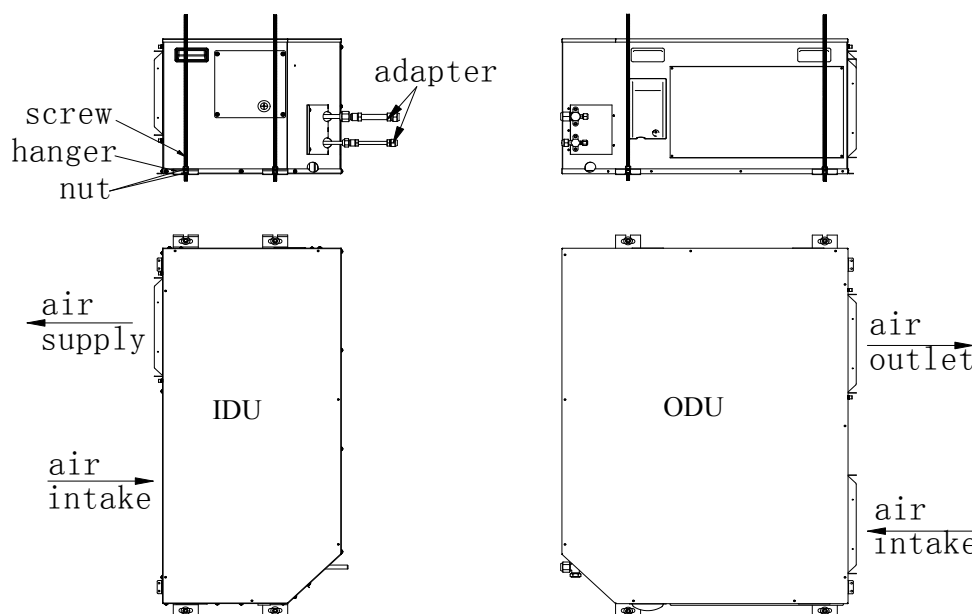

Fig.8
(4) Install the unit Separately (30K) as Fig.8 shows.